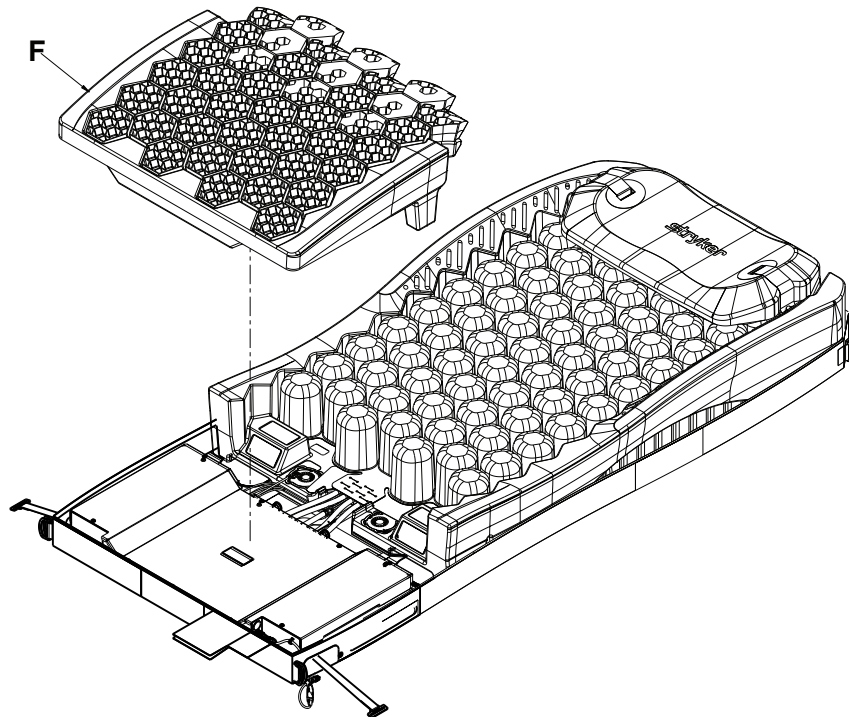

Figure 19 – Gel crib
11. Lift up on the foot section gel (F) to remove the gel crib from the pod assembly (Figure 19). Save the gel crib.